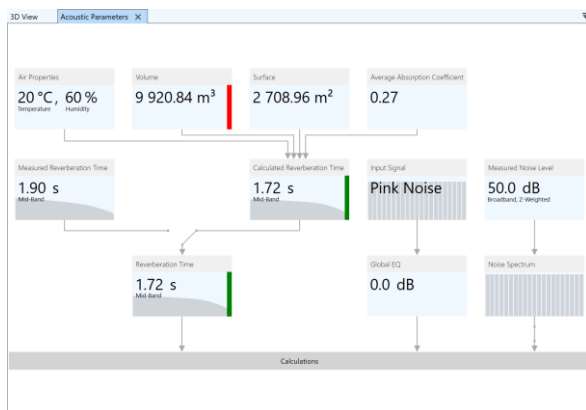

Figure 7.31 Room volume indicator is red due to missing or inverted faces.
1. Check the room volume using the **VOLUME** display in the **ACOUSTIC PARAMETERS** window (Figure 7.31).